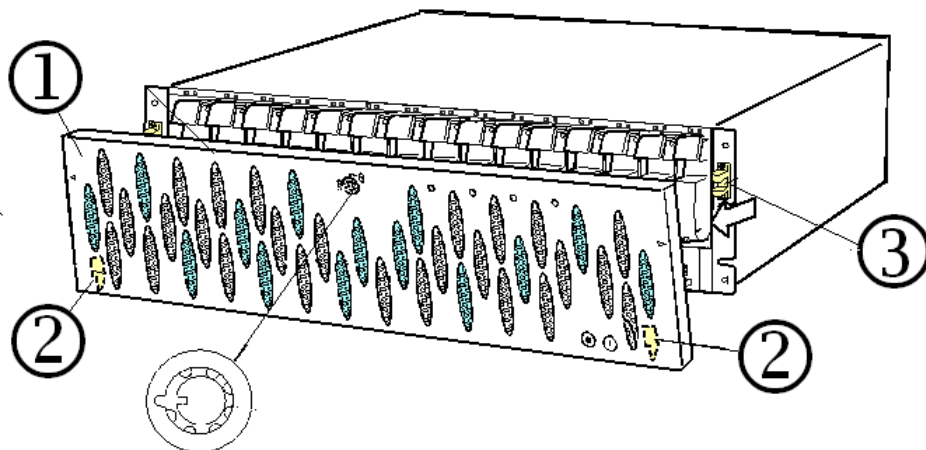

Figure 5-22: Removing the Front Bezel
3. Disengage the two hooks of the front bezel from the slots on the array chassis by shifting the bezel to the left, and remove the bezel. See Figure 5-22. Also, see the illustrations in Chapter 4 for more details.